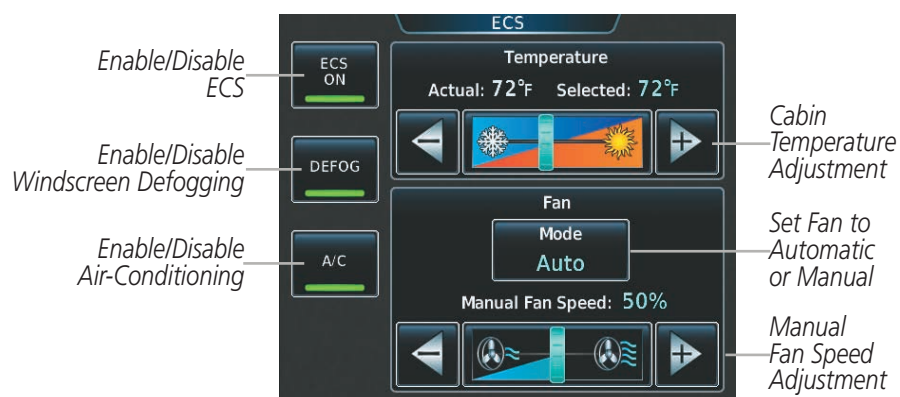

Figure 1-34 ECS Screen
- 2) Touch the **ECS ON** Button. A green annunciator indicates ECS is enabled as shown in Figure 1-34. A gray annunciator indicates ECS is disabled.
- 2) Touch and slide the temperature slider as shown in Figure 1-34.
The selected cabin temperature is displayed above the temperature slider. The actual cabin temperature is displayed to the left of the selected temperature as shown in Figure 1-34.
- 2) Touch the **Mode** Button to select **Manual** or **Auto**. Each touch of the button switches between manual and automatic mode. **Auto** mode is selected in Figure 1-34. Manual mode allows the fan speed to be adjusted manually. Auto mode allows the ECS to determine proper fan speed for the selected temperature.
- 3) Touch and slide the fan speed slider as shown in Figure 1-34.